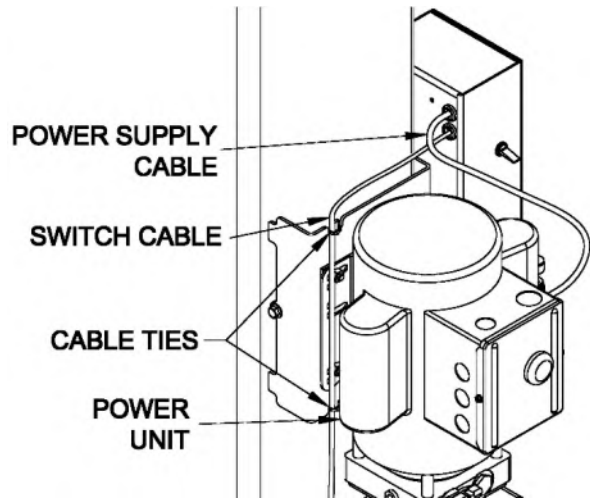

Fig 36 – Sensor Cable Routing
- 78) Use the provided cable ties to secure the sensor cable to power unit bracket as shown in **Fig 36**.